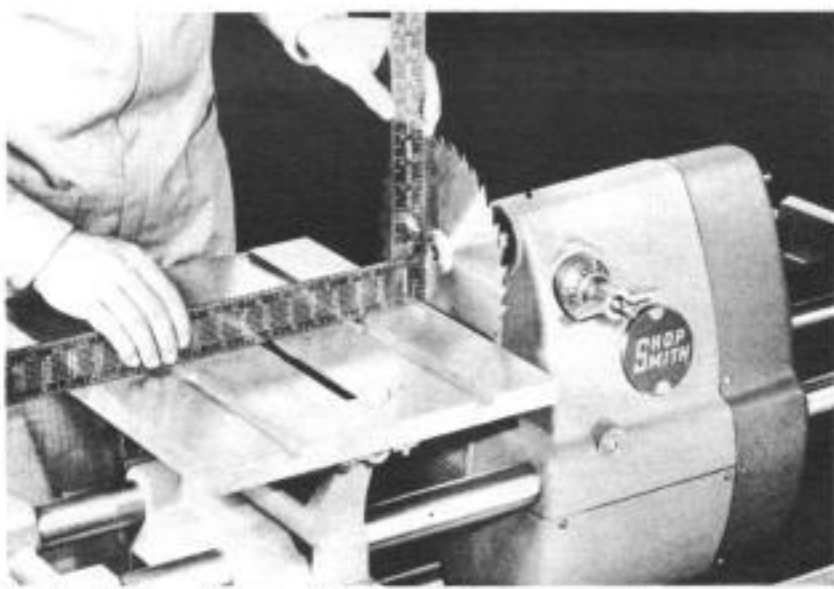

Fig. 6 Table must be exactly 90° to blade
1.... AT "O" TRUNNION SETTING, THE TABLE MUST BE SQUARE TO THE SAW BLADE. This is checked with the table as low as possible and locked in position about  $\frac{1}{8}$ " away from the saw blade (Fig. 6). Be sure the square used for checking rests flat against the blade and that it seats between teeth. If the angle between blade and table is not exactly 90 degrees, adjustment is required. (See section on Adjustments.)